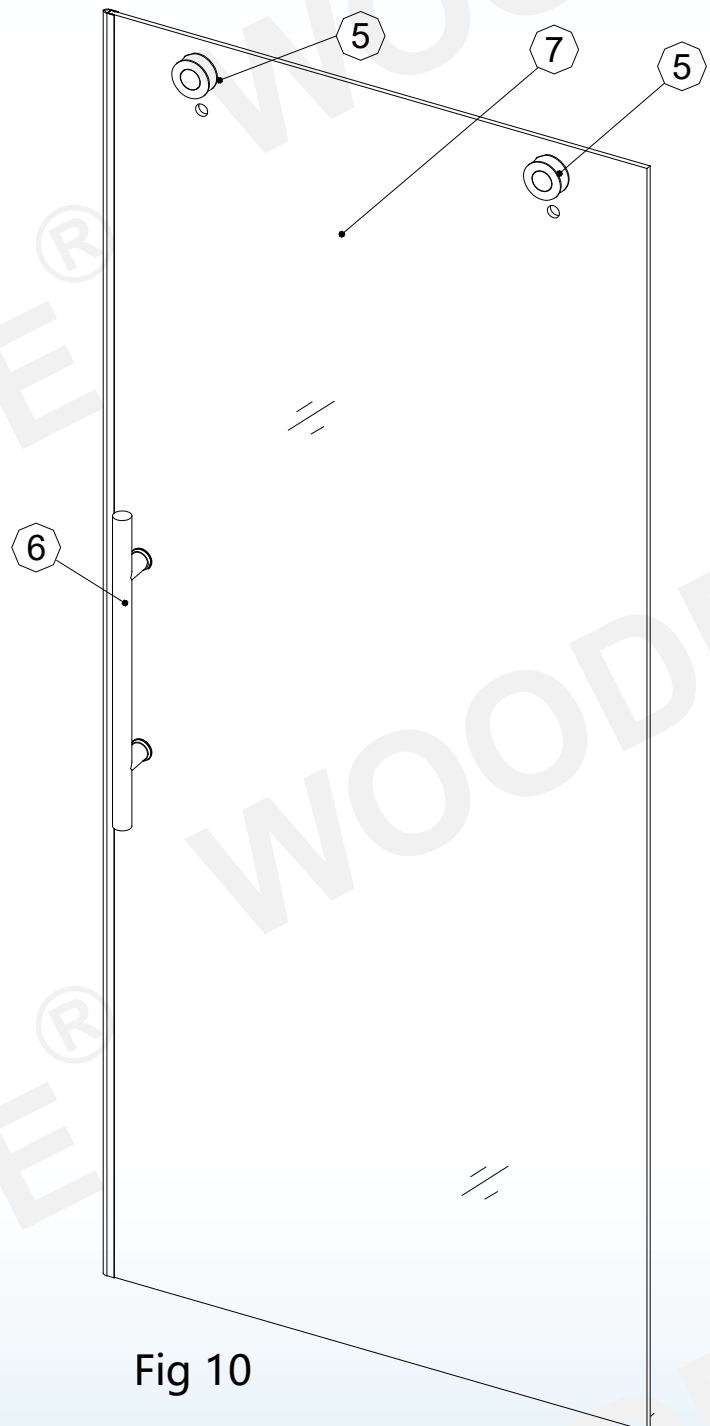

Fig 10
10. Install Glass Door Loosen the **Rollers (5)** screws and the Install the rollers. And then Install **Handle (6)** and **Bumper Strip (1)** to the door.
*Please see Fig 10 for details*